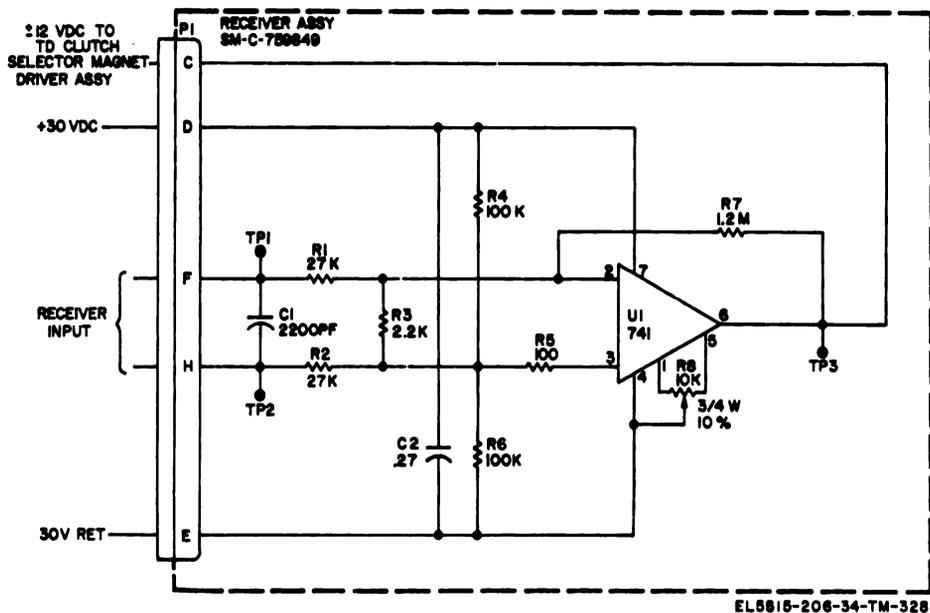

Figure 2-70. Receiver module, simplified schematic diagram, TT-698 (*)/TG.
(1) *Receiver module* (fig. 2-70). The receiver module accepts the ±6 volt MARK/SPACE signals from the receive line. The input impedance of the